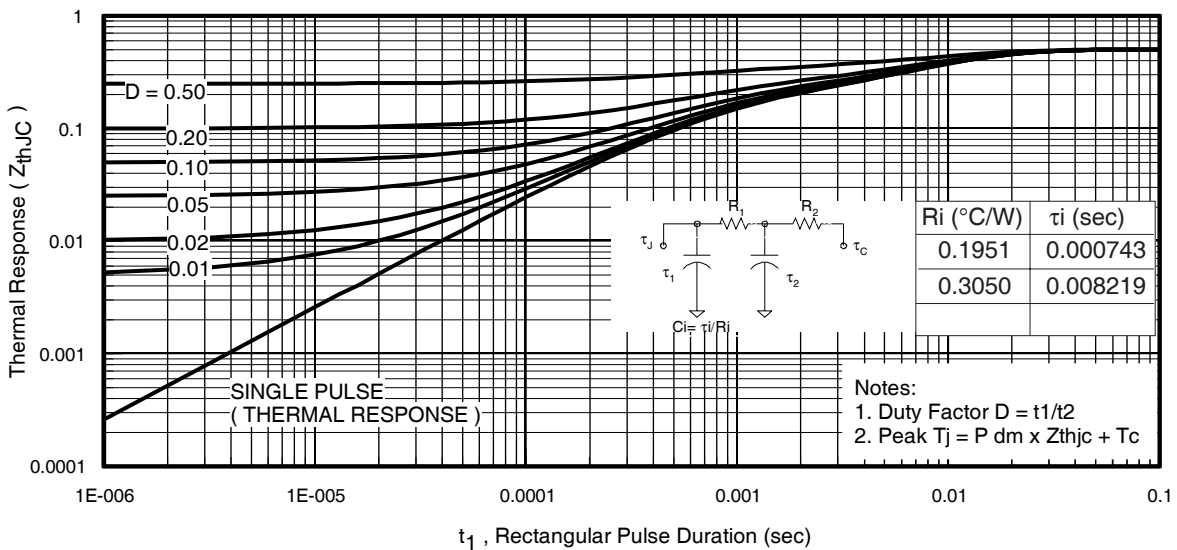

Fig 11. Maximum Effective Transient Thermal Impedance, Junction-to-Case
- ① Repetitive rating; pulse width limited by max. junction temperature. (See fig. 11).
- ② Limited by T_{Jmax} , starting $T_J = 25^\circ\text{C}$, $L = 0.049\text{mH}$, $R_G = 25\Omega$, $I_{AS} = 160A$, $V_{GS} = 10V$. Part not recommended for use above this value.
- ③ Pulse width $\leq 1.0\text{ms}$; duty cycle $\leq 2\%$.
- ④ $C_{oss\text{ eff.}}$ is a fixed capacitance that gives the same charging time as C_{oss} while V_{DS} is rising from 0 to 80% V_{DSS} .
$Z_{thJC}(D, t_{av})$ = Transient thermal resistance, see figure 11)